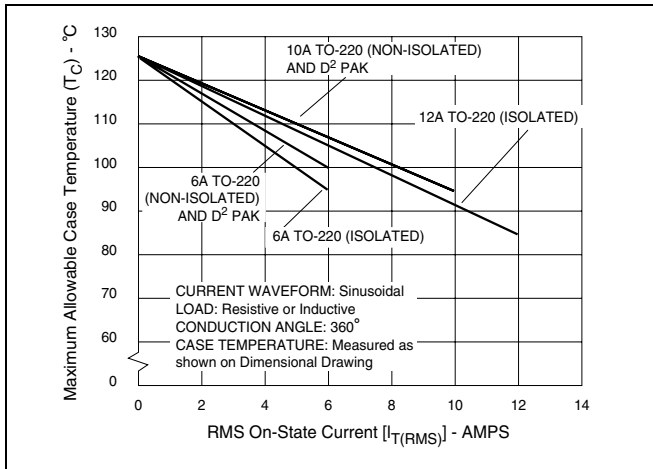
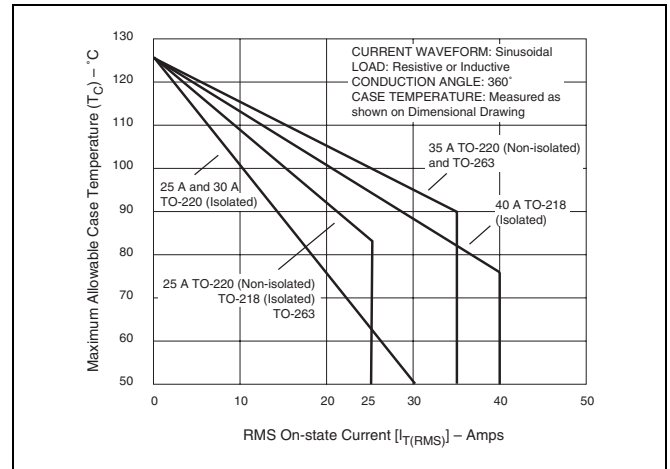
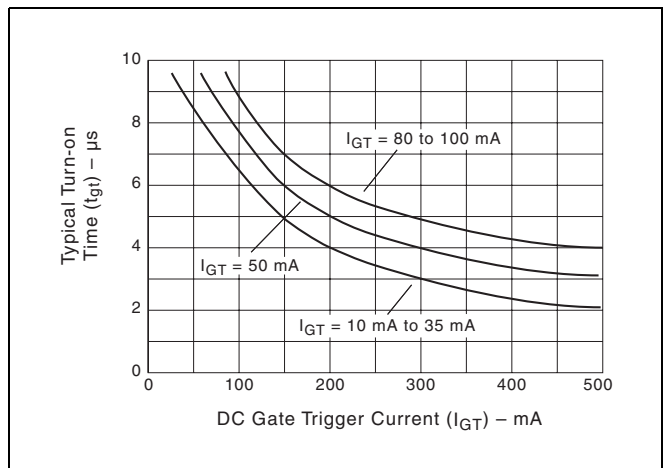

Figure E4.1 Maximum Allowable Case Temperature versus On-state Current (6 A to 12 A)
Figure E4.4 Maximum Allowable Case Temperature versus On-state Current (25 A to 40 A)
Figure E4.12 Turn-on Time versus Gate Trigger Current (Typical)
- (1) For either polarity of MT2 with reference to MT1 terminal
- (2) For either polarity of gate voltage (VGT) with reference to MT1 terminal
- (3) See Gate Characteristics and Definition of Quadrants.
- (4) See Figure E4.1 through Figure E4.4 for current rating at specific operating temperature and Figure 4.16 for free air rating (no heat sink).
- (10) See Figure E4.12 for  $t_{gt}$  versus  $I_{GT}$ .
- (11) See package outlines for lead form configurations. When ordering special lead forming, add type number as suffix to part number.
- (12) Initial on-state current = 400 mA dc for 16 A to 40 A devices and 100 mA for 6 A to 12 A devices.
- (13) See Figure E4.1 through Figure E4.4 for maximum allowable case temperature at maximum rated current.
- (14) Pulse width  $\leq 10 \mu s$ ;  $I_{GT} \leq I_{GTM}$
- (15) For 6 A to 12 A devices,  $R_L = 60 \Omega$ ; 16 A and above,  $R_L = 30 \Omega$
- (16) 40 A pin terminal leads on K package can run 100 °C to 125 °C.
- (17) Alternistor does not turn on in Quadrant IV.
- (18)  $T_C = T_J$  for test conditions in off state
- (19)  $I_{GT} = 200$  mA for 6 A to 12 A devices and 500 mA for 16 A to 40 A devices with gate pulse having rise time of  $\leq 0.1 \mu s$ .
- (20) Minimum non-trigger  $V_{GT}$  at 125 °C is 0.2 V.